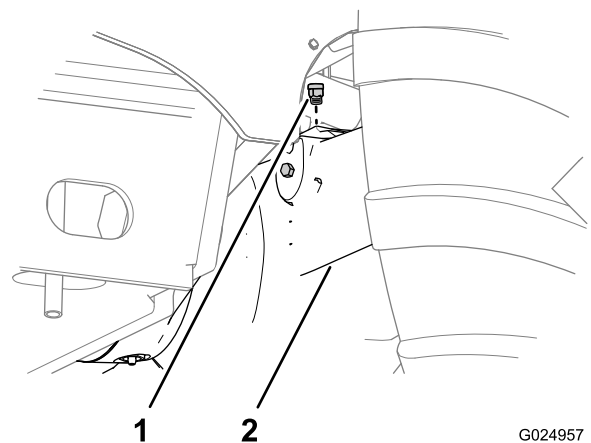

Figure 92
1. Clean the area around the breathers with a cleaning solvent (Figure 92 and Figure 93).